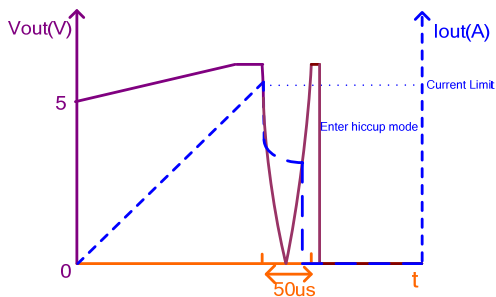

Figure 8: Over-Current Limit for CR Load
After the soft start finishes, if the USB output voltage is lower than 3.5V and lasts longer than 50µs, the MPQ4488 also enters hiccup (without having to wait for 5ms) (see Figure 8). This can prevent an abnormal thermal rise during a constant resistor (CR) load over-current case.